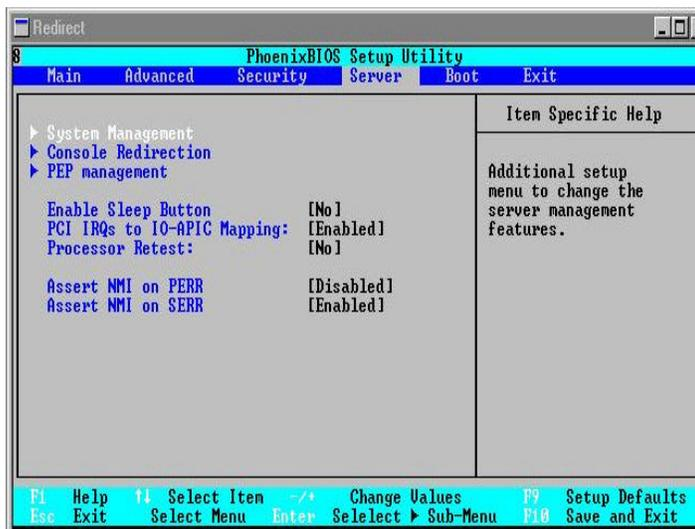

Figure 1: Server Menu Tab in BIOS setup
3. Using the left/right cursor arrow keys select the tab menu labeled "**Server.**" Refer to Figure 1.